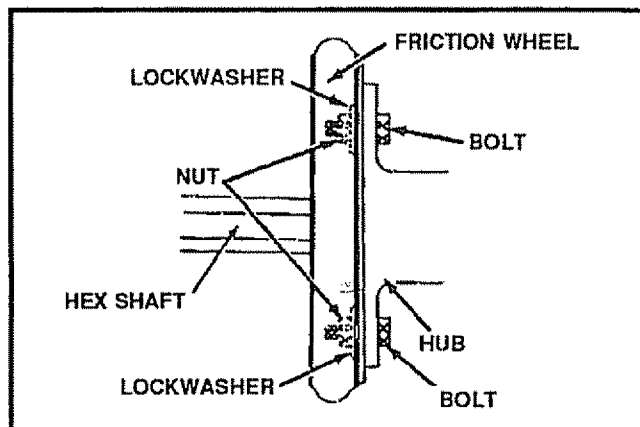
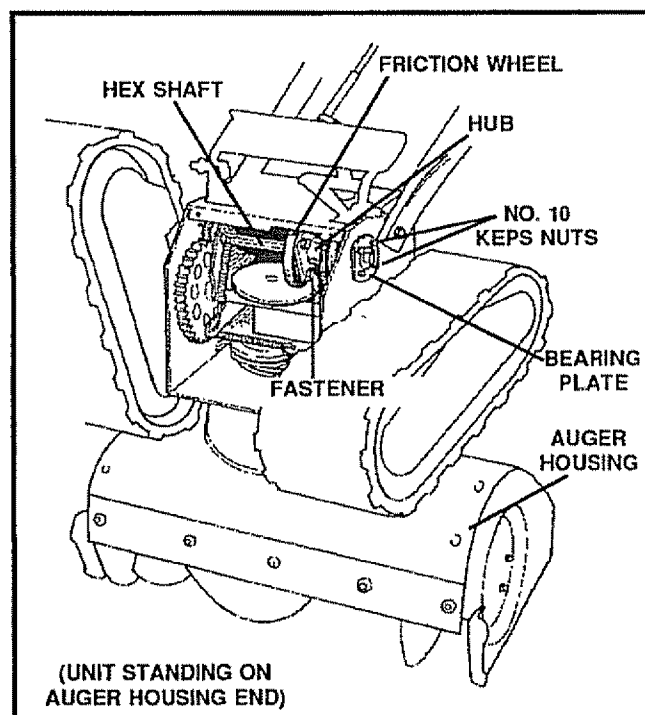

FIG. 32
FIG. 33
- Stand the snow thrower up on the auger housing end (See Fig. 32).
- Rotate the right side track until it is parallel to the ground (See Fig. 33).
- Remove the three (3) fasteners securing the friction wheel to the hub (See Fig. 32).
- Move the shifter lever into first (1) gear.
- Loosen the four No. 10 keps nuts securing the bearing plate (See Fig. 33). Do not remove the nuts.
- Move the speed select lever into sixth (6) gear.